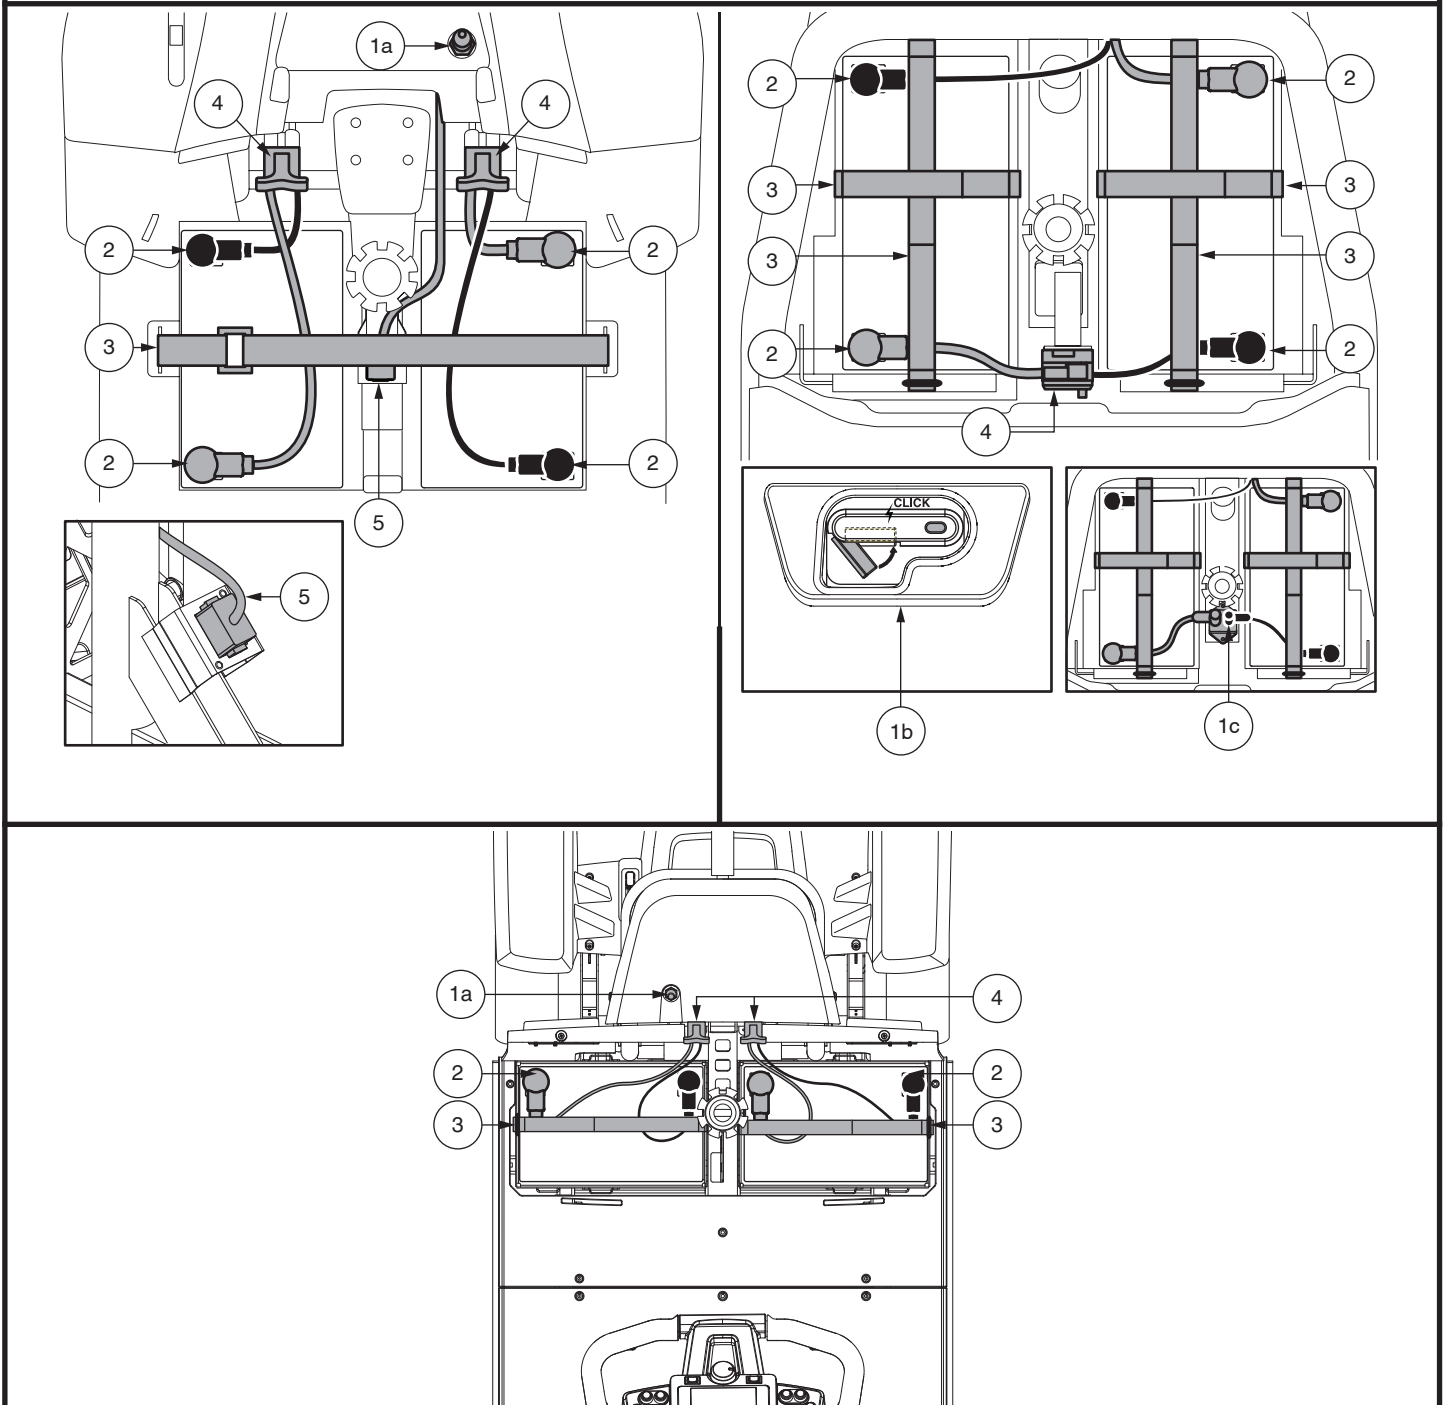

Figure 16. Battery Removal/Installation Terminals and Connections
3. For all models EXCEPT 614 and 714, disconnect the front-to-rear harness. Unplug both battery harnesses by pulling each harness out of its mating plug. See figure 16.
4. Disconnect the battery cables from the battery terminals by sliding back the terminal boots and unscrewing the nut from the bolt. **See figure 16.**
6. Place a new battery in each battery well. Face the battery terminals of each battery away from the seat post with the positive (+) and negative (-) battery terminals positioned as shown in **figure 16.**
**NOTE:** *Models 614 and 714 use battery straps to secure batteries in the battery wells. Please refer to figure 16 for battery strap installing procedures.*
**WARNING!** When faced with an emergency situation, the batteries can be quickly disconnected by pulling **FORWARD** on the emergency battery disconnect strap. Use caution. Be advised that turning off power to the scooter may cause the scooter to stop abruptly. To release the emergency stop and restore driving capability to the scooter, remove the seat and battery shroud, and reconnect the battery connector as shown in Figure 16.